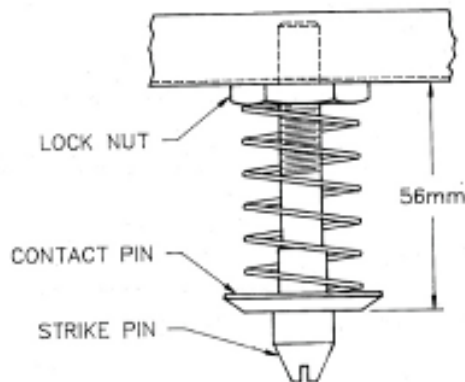

Figure 182 Bonnet Striker Pin
- e. Adjust the bonnet striker pin to the correct dimensions (Figure 182).